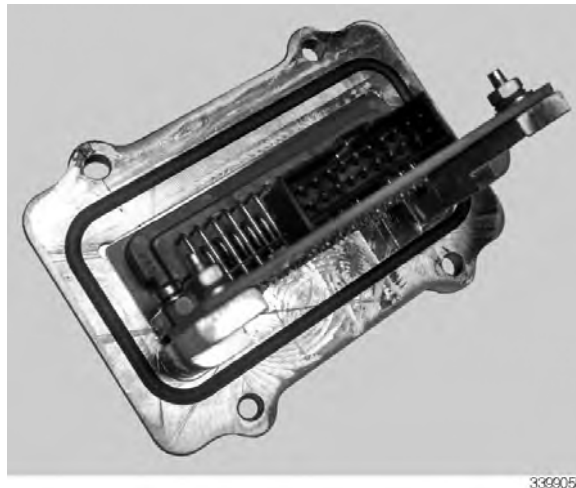

Figure 16. New EMI Gasket on New Encoder Card
4. Install a new EMI gasket (P/N 29540712) into the new encoder card (inverter A P/N 29547461 or inverter B P/N 29547434) mounting flange groove (refer to Figure 16). Ensure the gasket is fully seated in the groove and is not twisted, stretched, or torn. Place the new encoder card through the DPIM housing.